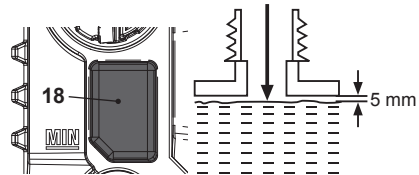

Fig. 10
4. Don't fill the oil lower than the "MIN" mark on the oil level window (18), but also do not overfill or and leave approximately 5 mm of space between the top of the oil and the inside edge of the tank to allow for expansion (Fig. 10).